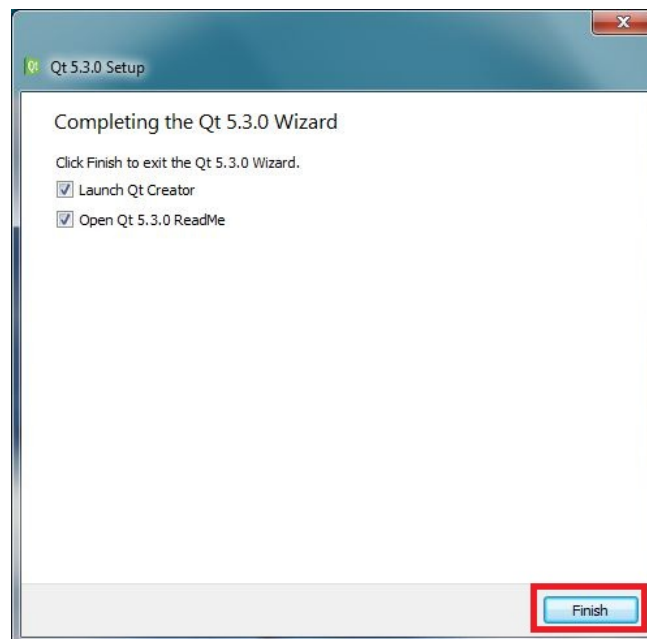

Figure 4-7. Qt IDE Installation Completed
9. Once the Qt IDE installation has completed, click the **Finish** button as shown in Figure 4-7.